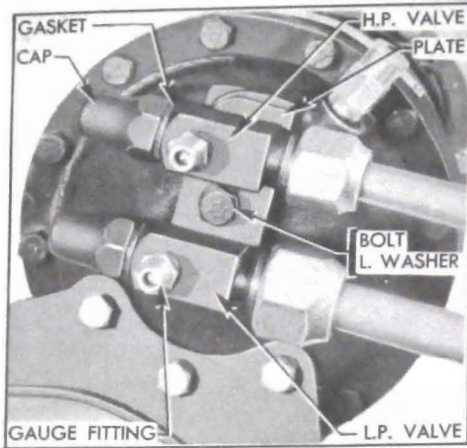

Figure 11-26—High and Low Pressure Service Valves
3. Remove protective caps and firmly close both valves on rear of compressor by turning valve stems clockwise. See figure 11-26.